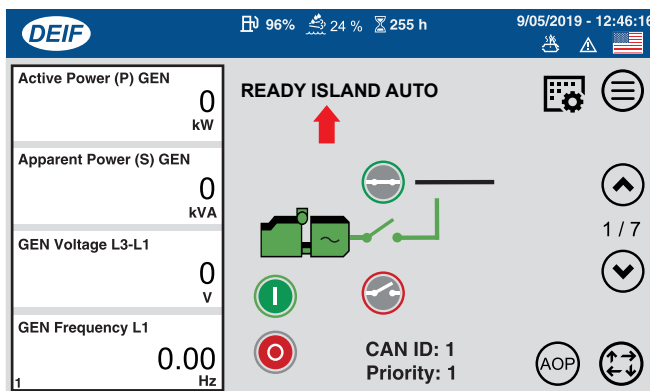

Figure 167. Status Message (READY ISLAND AUTO)
- Verify that the message **READY ISLAND AUTO** is shown on the touch display (Figure 167).